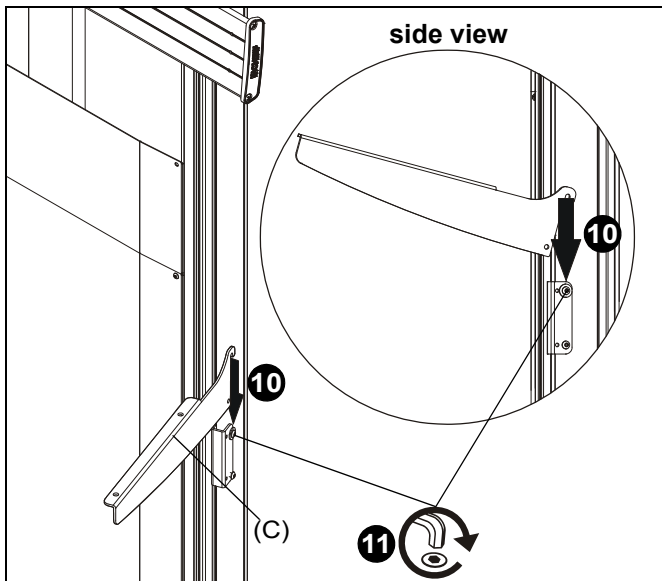

Figure 7
11. Tighten top screw to ensure shelf support is secured in position. (See Figure 7)